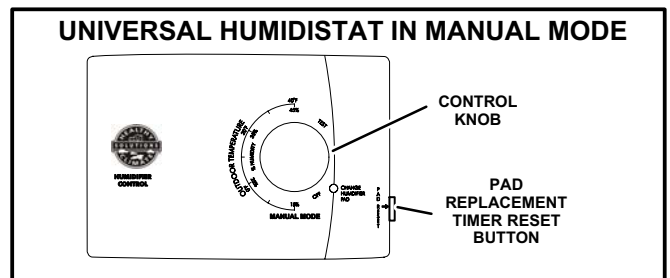

FIGURE 3
- - Models equipped with a universal humidistat in the manual mode (figure 3) -- Turn the humidistat control knob to the OFF position.